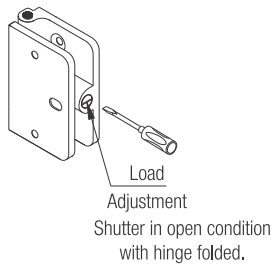

Fig. 2
3. Load adjustment is possible with a screw driver as per Fig. 2.